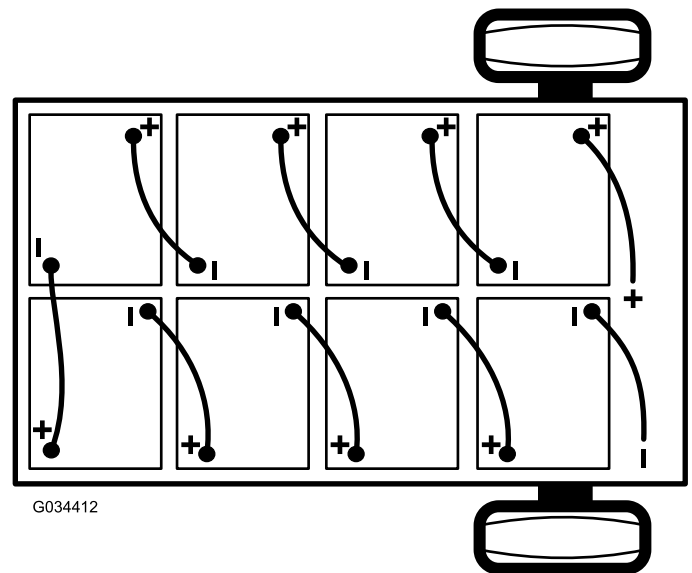

Figure 39
- Disconnect the main negative-battery cable (black) that connects the bank of batteries to the ground point of the machine (Figure 39).
- Disconnect the main positive-battery cable (red) that connects the bank of batteries to the main contactor of the machine (Figure 39).
Note: Pay attention to the battery polarity when installing the new batteries (Figure 39).
6. Connect the batteries together as shown in Figure 39 with the battery-interconnect cables that you removed in step 1.
2. Connect the main positive-battery cable (red) between the bank of batteries and the machine (Figure 39).
3. Connect the main negative-battery cable (black) between the bank of batteries and the machine (Figure 39).